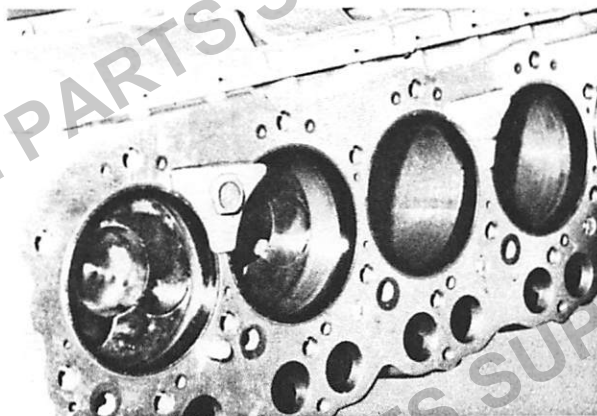

Fig. 3-4-30 Liner stopper
- 4) Turning the crankshaft, after completion of mounting of piston, may sometimes cause the liner to slip. To prevent this, use the Liner Stopper shown in Fig. 3-4-30.